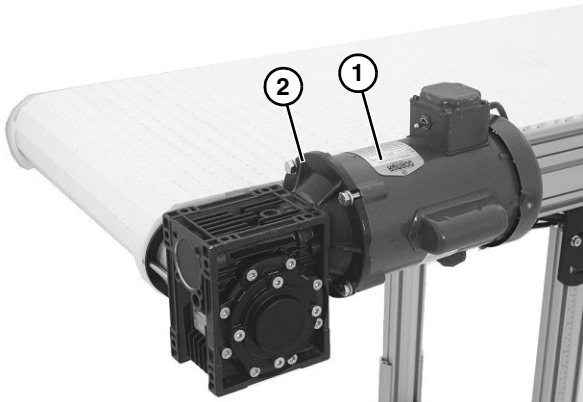

Figure 22
1. Attach the motor (**Figure 22, item 1**) to the gear reducer (**Figure 22, item 2**).